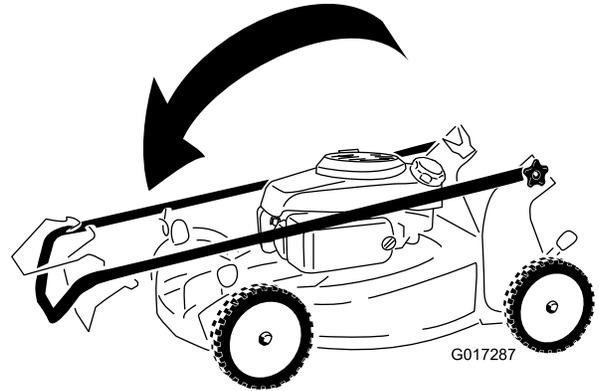

Figure 25
2. Fold the upper handle forward as shown in Figure 25.